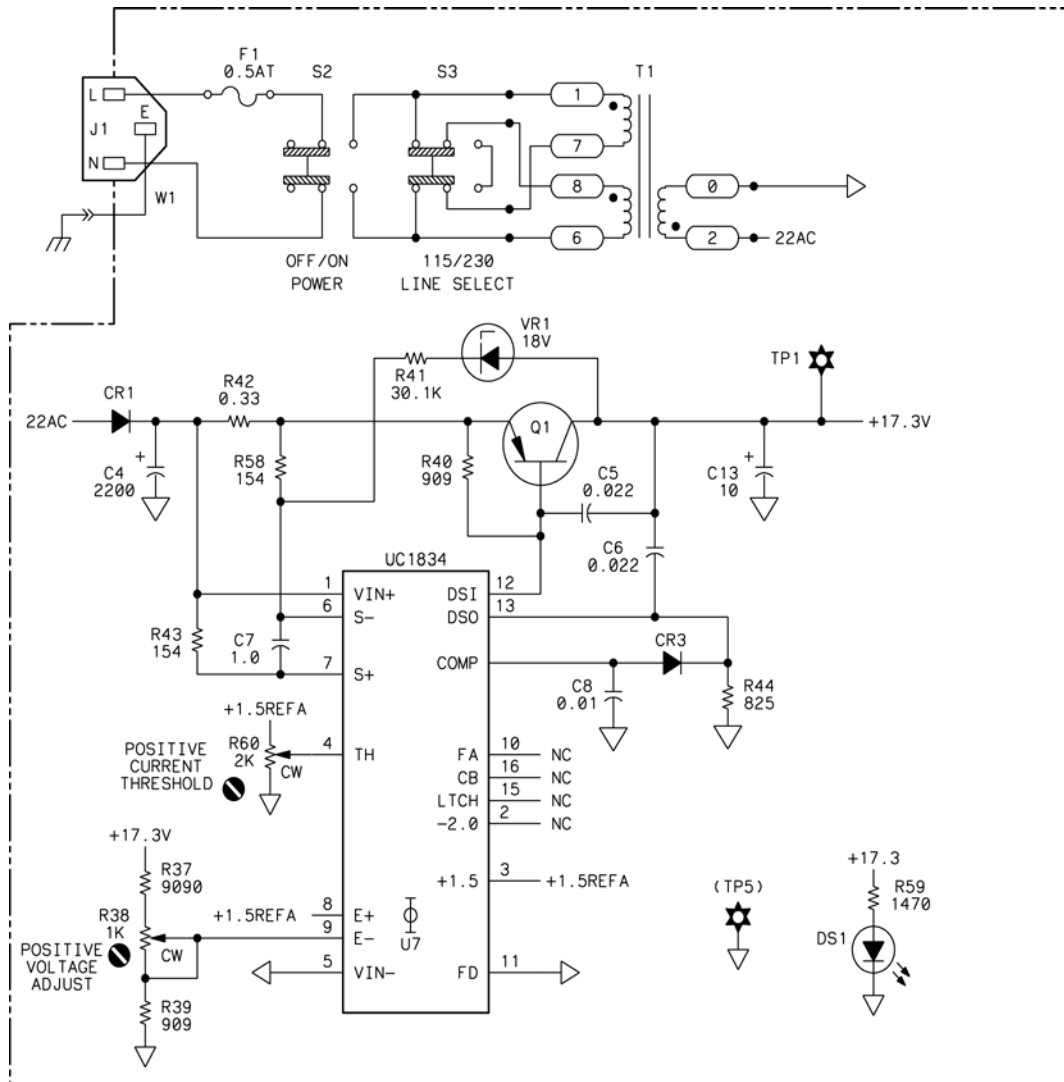

Figure 9 Schematic 1. Line Input and Positive Supply
- **Figure 9**, “Schematic 1. Line Input and Positive Supply,” on page 53
When reading this section, refer to **Figure 9**, “Schematic 1. Line Input and Positive Supply,” on page 53. The reference for the positive supply is the +1.5V reference from the IC, fed to the non-inverting input of the error amplifier. The output voltage is divided through the POSITIVE VOLTAGE ADJUST and fed to the inverting input of the error amplifier. The output of the regulator IC is fed to pass transistor Q1. For additional gain, Q1 is operated with the collector as the output.